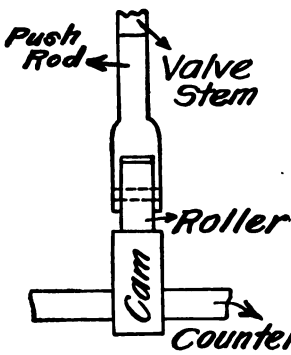
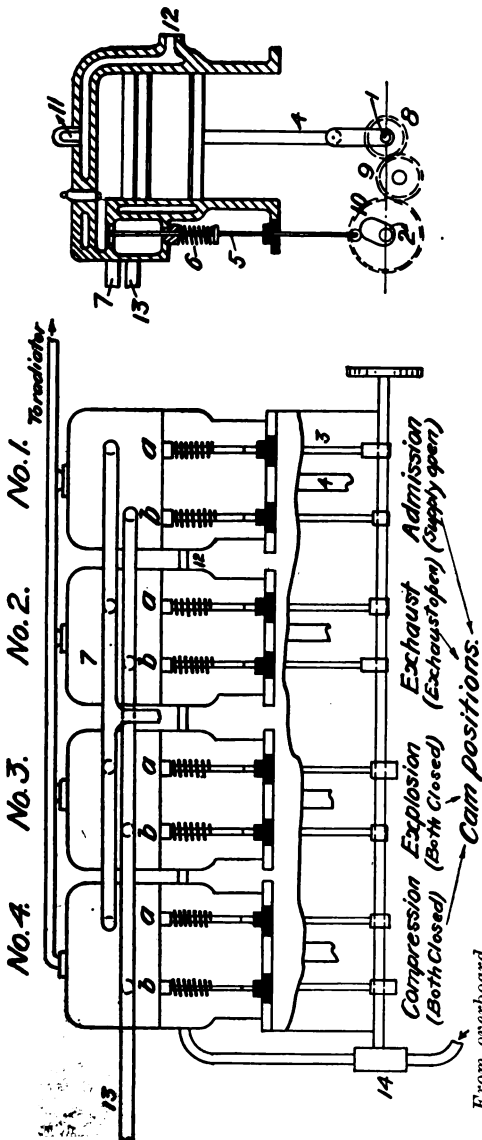

FIG. 20.—Push Rod.
FIG. 21.—Schematic Plan of Four Cylinder, Four Cycle, Gasoline Motor, Showing Fuel and Cooling Systems
**Push Rods.** Interposed between the valve stem and the cam on the countershaft is a push rod, Fig. 20. As seen in Fig. 21 these push rods are carried in guides that fasten to the engine base. On the lower end is a hard steel roller that bears on a cam giving a minimum friction. In the latest practice for high speed
bureter to the various cylinders. This is generally of brass pipe. [See Fig. 21, (7).]